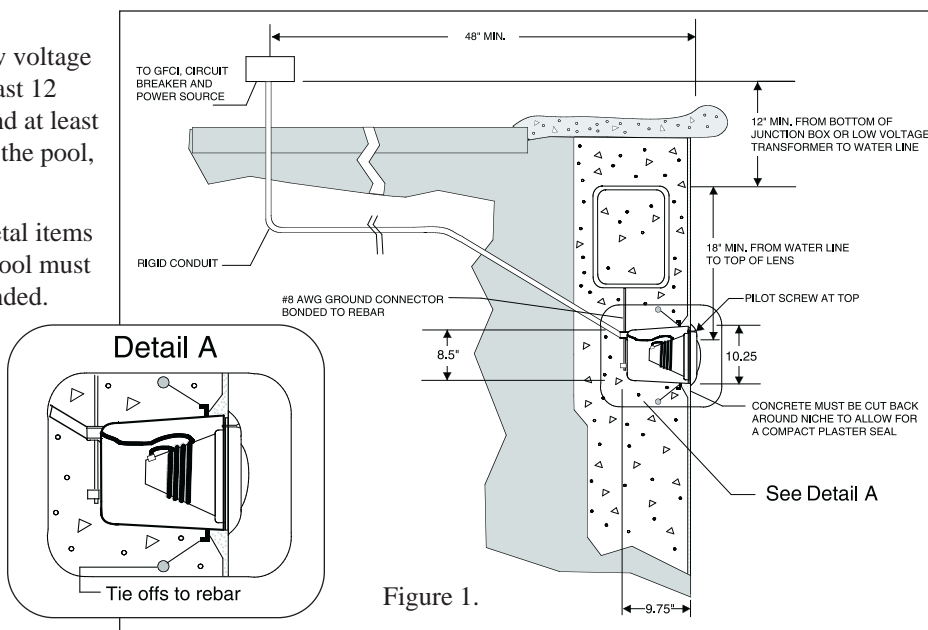

Figure 1.
- b. The junction box or the low voltage transformer is located at least 12 inches above water level and at least 48 inches from the edge of the pool, see Figure 1.
- c. The light fixture and all metal items within five (5) feet of the pool must be properly electrically bonded.
- d. The niche must be properly installed so that the top edge of the Underwater Light's lens is at least 18 inches below the surface of the water in the pool, see Figure 1.
- e. The niche is properly electrically bonded and grounded via the NO. 8 AWG ground connector located at the rear of the niche, see Figure 1.
8. If pool surface is to be plastered, you must allow proper concrete cut-back for plaster thickness. Finished concrete surface must be cut-back behind the niche flange, see Detail A of Figure 1. Finished area surrounding niche must be flat and flush with the front face of the niche. This ensures a snug fit between light and wall.